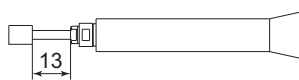

Fig. 1
- ① This attachment is designed for hand use. Never install this attachment or any hand tool on a machine such as a special purpose machine, NC lathe or mill.
- ② Do not touch the cutting tool while it is rotating. It is very dangerous.
- ③ Always wear safety glasses, dust mask and hearing protection.
- ④ When installing a cutting tool, tighten the collet chuck correctly and recheck the collet chuck before use. Do not overtighten the collet chuck. This may cause damage to the spindle.
- ⑤ Do not use grindstones with an outside diameter over $\phi 17\text{mm}$.
- ⑥ Do not exceed 13mm of overhang for mounted grindstones as shown in Fig. 1. If the overhang must exceed 13mm, reduce the motor speed in accordance with Table 1.
- ⑦ Do not use bent, broken, chipped, out of round or sub-standard tools as they may cause shatter or explode. The cutting tool with cracked, bended may cause some injury to operator. When using a new cutting tool, rotate it in a low speed and increase speed gradually for safety.
- ⑧ Always operate cutting tools within the cutting tool manufacturer's recommended speed limits. Use of a cutting tool higher than the manufacturer's recommended speed limits could cause damage to the spindle and injury to the operator.
- ⑨ Do not apply excessive force. This may cause cutting tool slippage, cutting tool damage, injury to the operator, loss of concentricity and precision.